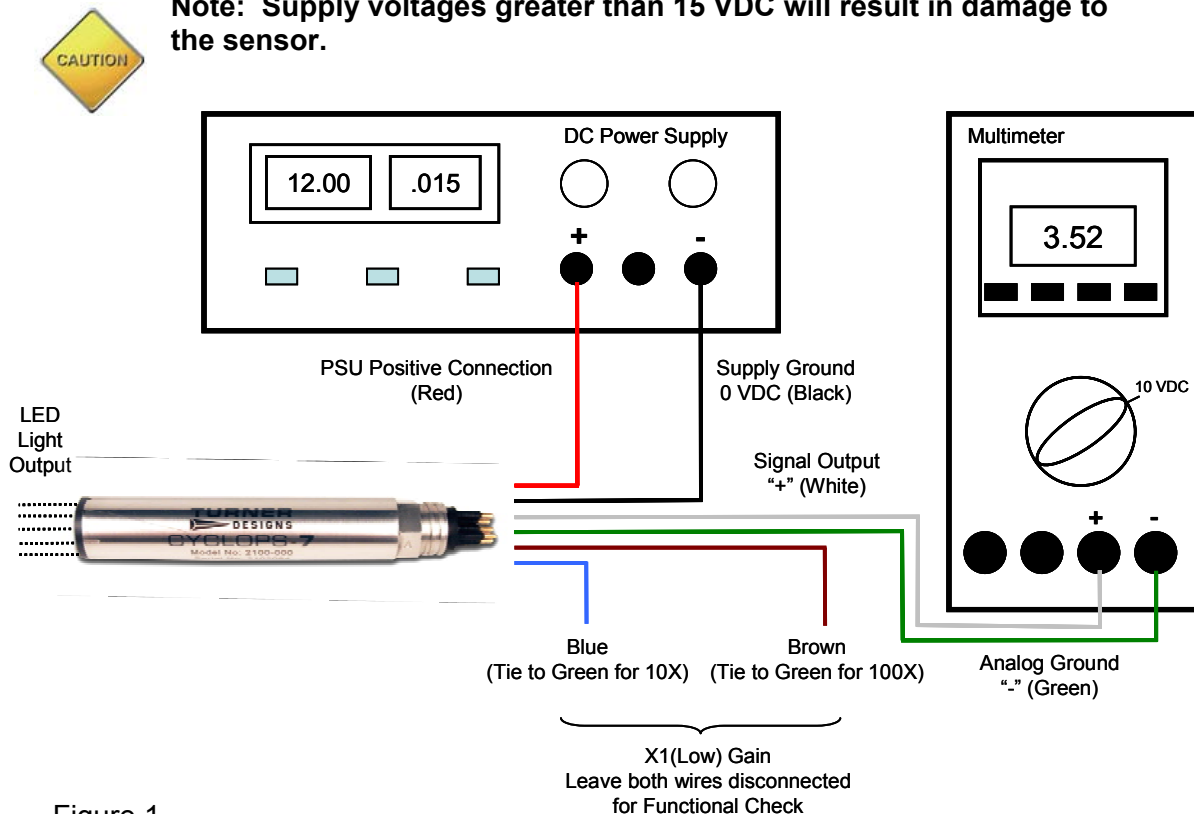

Figure 1.
To perform a functional check on the Cyclops, connect the interface colored wires to the power supply and multi-meter as shown in Figure 1 below.
With the Cyclops connected as shown in Figure 1 answer questions 1-3 by making the following functional tests:
- 1) For *in vivo* applications, take a natural sample of water from a sampling station where you plan to deploy the Cyclops. Applying good measurement practices, store it properly and quickly transport it to a laboratory where you have the Cyclops connected to a multi meter and DC power source (see *Figure 1*).